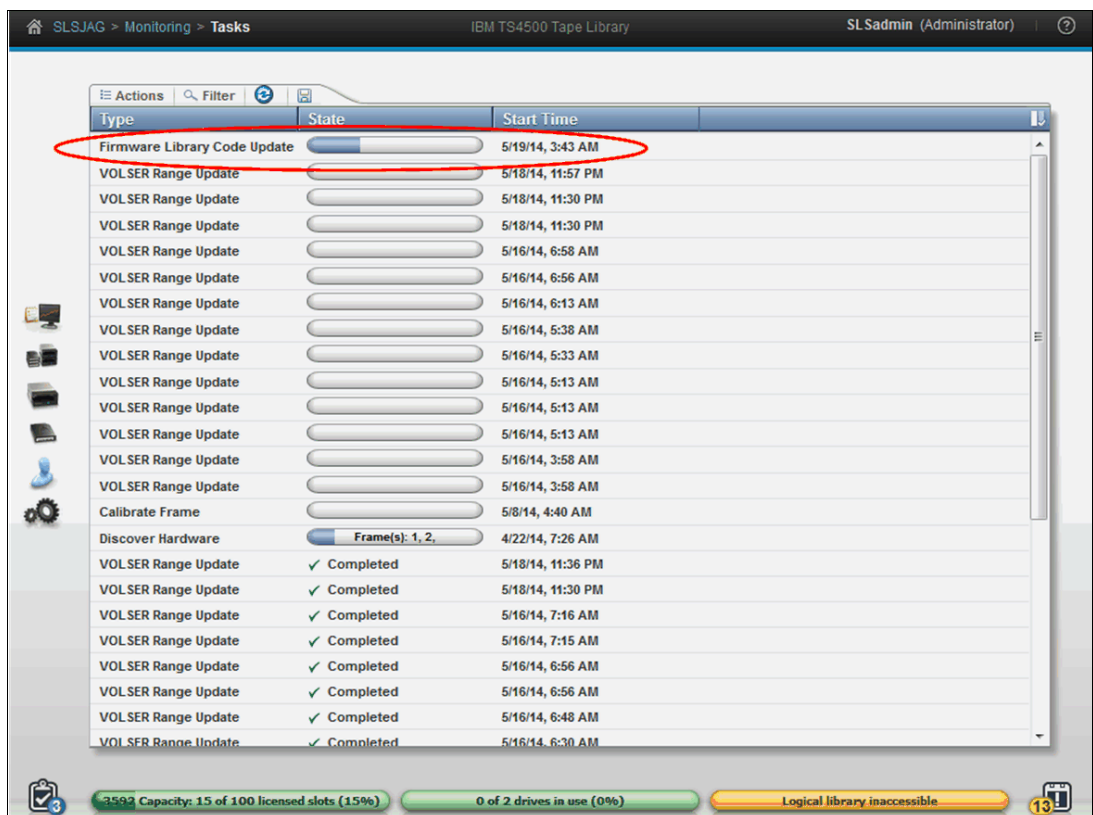

Figure 4-143 Firmware update status
- The firmware is downloaded to the TS4500 tape library first, and this download can take a few minutes. Then, the update starts and the Tasks pod, which is at the lower-left corner of the System page, indicates that the firmware update task is in progress. Monitor the status of the update from the Tasks page by selecting **Monitoring** → **Tasks**, as shown in Figure 4-143.